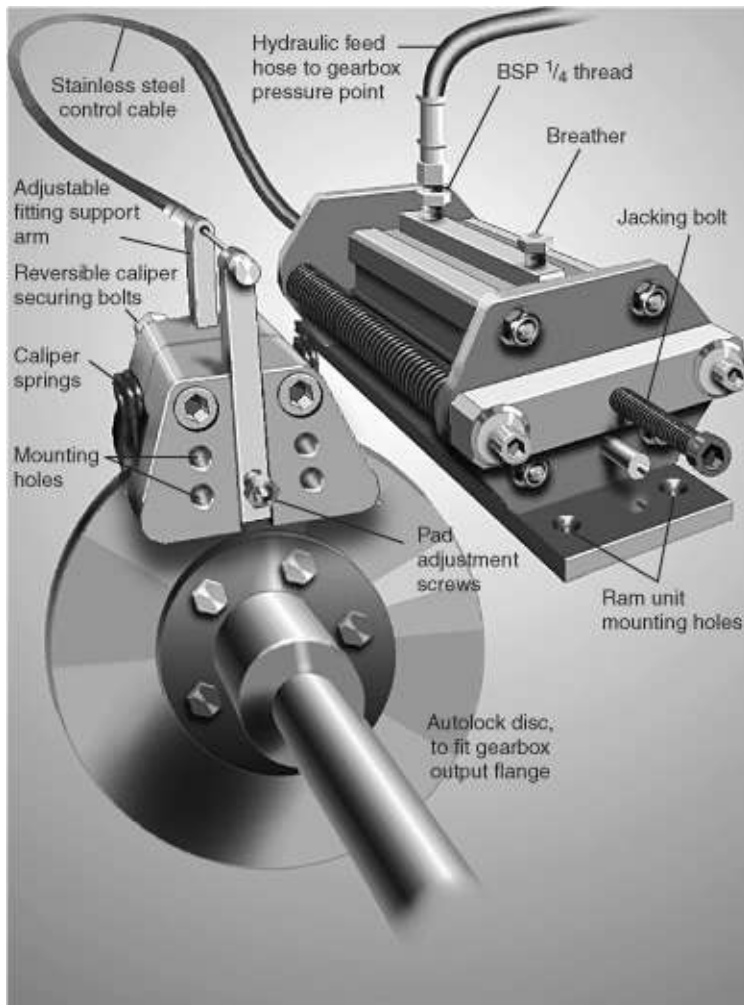

FIGURE 8-18. A hydraulic shaft lock. (Courtesy Brunton's Propellers)
1. *Caliper disc*. These operate as on a car. A disc is bolted between the two propeller shaft coupling halves. A hydraulically operated caliper grips the disc to stop rotation (see Figure 8-18).